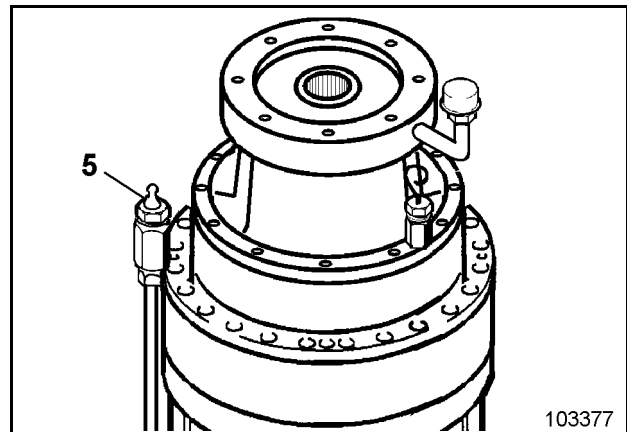

Fig. 3-83:
- Fill in approximate 50cm³ / 1.7oz grease through grease nipple (5, Fig. 3-83:) by means of a hand grease pump.